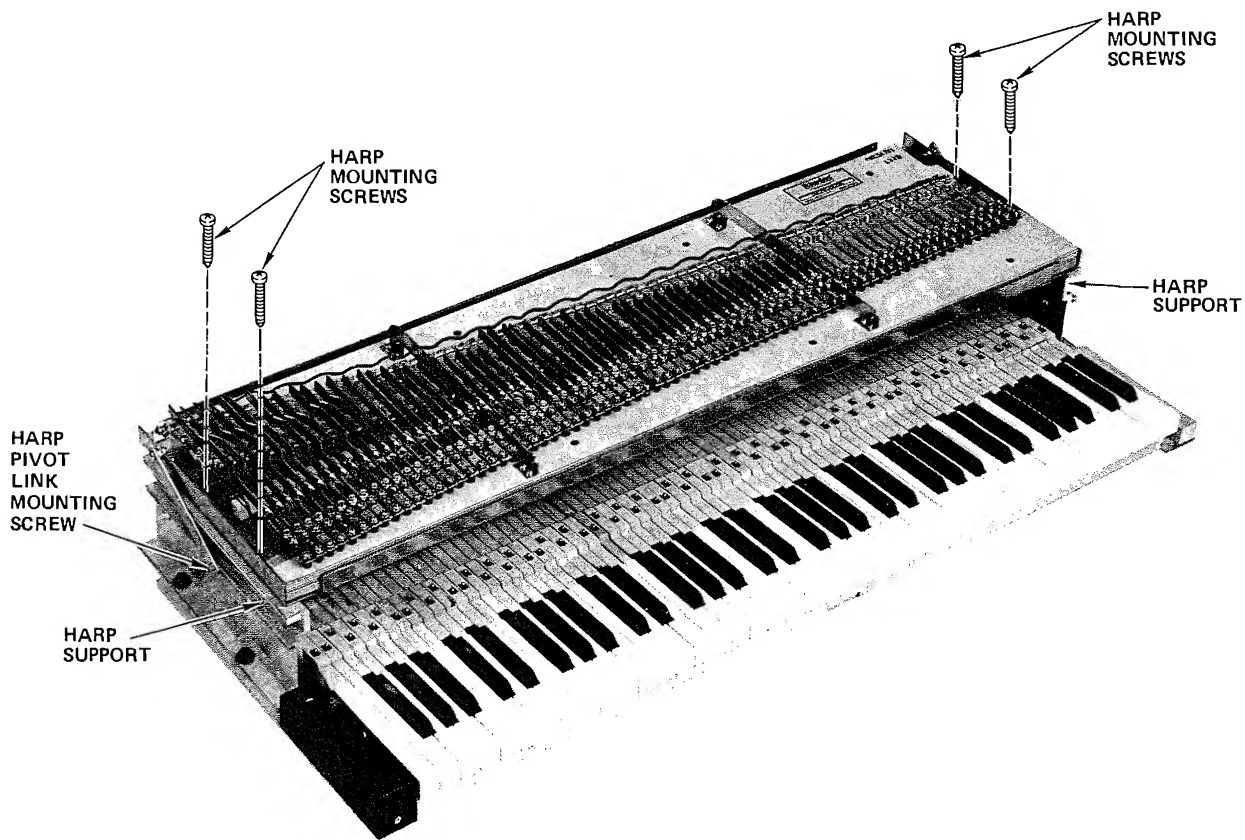

Figure 4-7. RHODES Harp/Action Assembly
2. To re-establish proper Striking Line, remove two (2) Harp Mounting Screws (Figure 4-7) on the Bass (left) side of the Harp and one (1) Harp Mounting Screw on the Treble (right) side of the Harp located closest to the Keys. Loosen but do not remove the remaining Screw. In addition, remove one (1) Harp Pivot Link Mounting Screw on the Bass (left) side of the Harp which attaches the Harp Pivot Link to the thread-grooved slot formed in the side of the Harp Support.
3. Remove the four Screws which secure the Piano Harp Frame to The Harp Supports (Figure 4-7) and stand the Harp vertically on its edge.